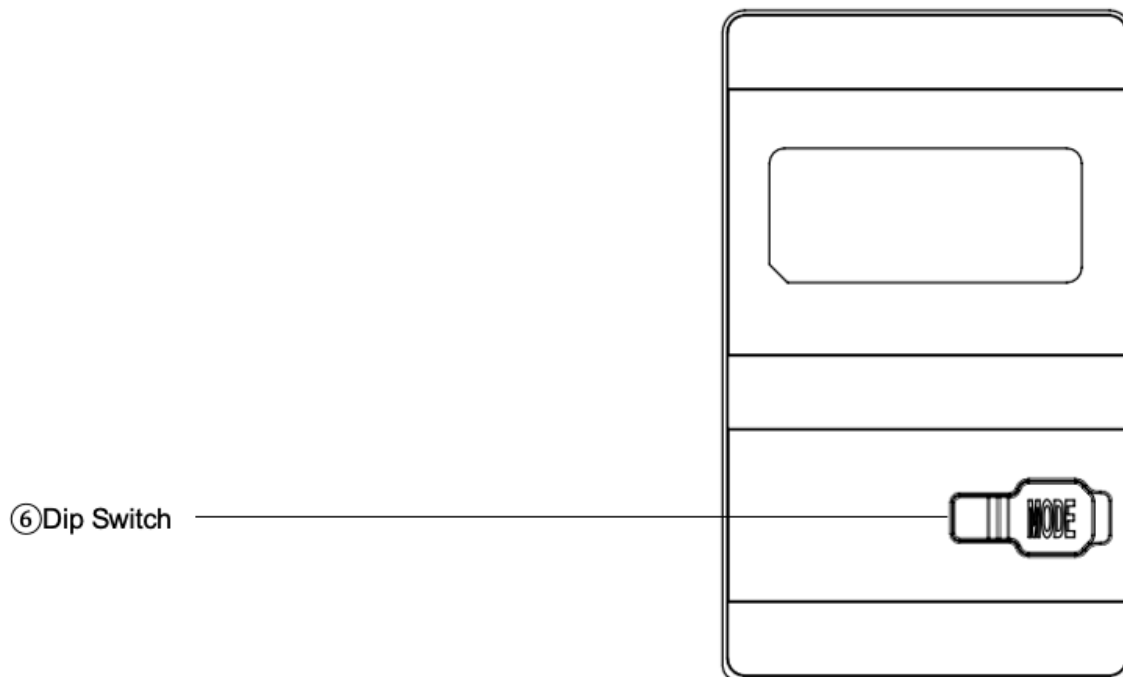

FIG. 1-3-2 Appearance (Back)
Switch between Serial mode and HID mode by switching Dip Switch 2's ON/OFF switch (see FIG. 1-3-2⑥) of the ASR-P35U.